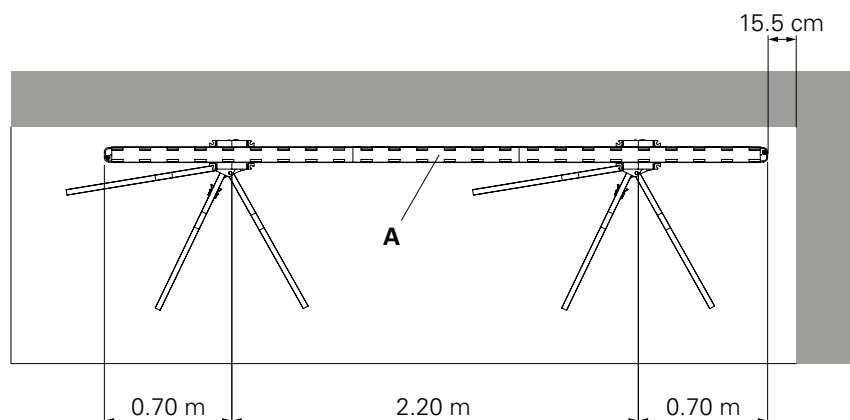

Fig. D6.09
- 70 cm for VT 20 L = 3.60 m (A) (Fig. D6.09)